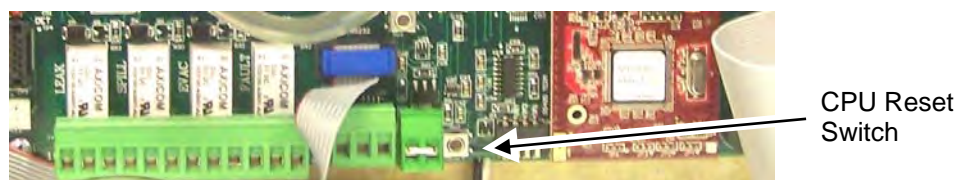

Figure 3-6. Location of CPU Reset Button
1. Restart the monitor by either (a) cycling the power, or (b) pressing the CPU reset switch on the main printed circuit board (see Figure 3-6).